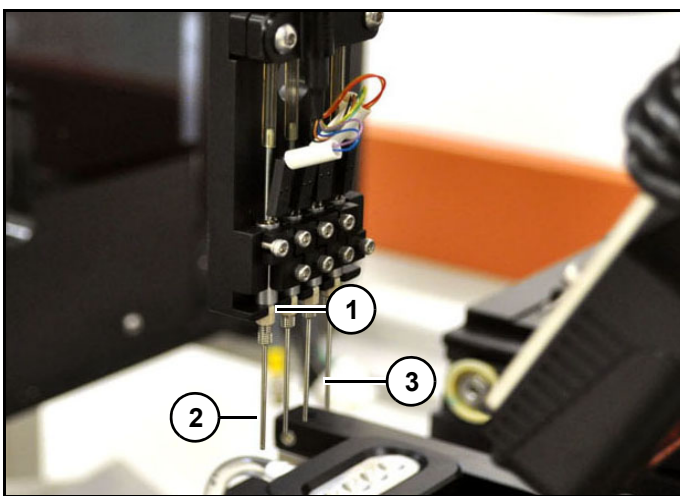

Figure 42
The plastic valve nut (1) (*Figure 42*) that holds tip is very delicate. Use caution when engaging or disengaging torque wrench to avoid damage.
When removing tips, always start with front tip (2) (*Figure 42*) to avoid damaging tips.
When installing new tips, always start with back tip (3) (*Figure 42*) to avoid damaging tips.
1. Gently loosen tip 4 (2) (*Figure 42*) by hand, turning counter-clockwise. If tip is screwed in too